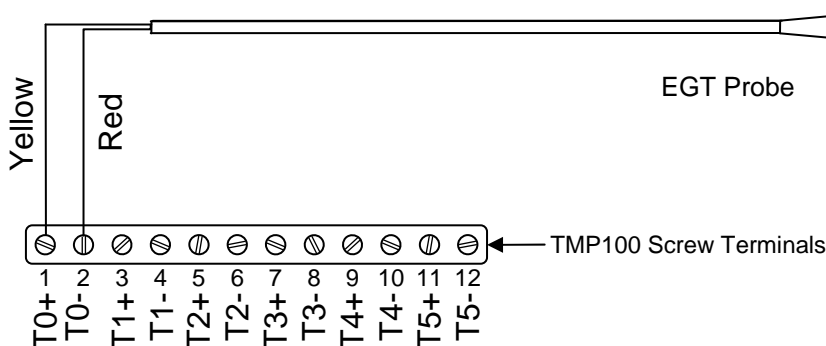

Figure 1 – Wiring Diagram
Please follow these instructions to connect the TP-EGT-1 exhaust gas temperature probe to the NMEA 2000® network via a Maretron TMP100 Temperature Module. The wiring diagram appears in Figure 1 below. The diagram shows a connection to channel #0, but connections to other channels are similar. Please note that the TP-IP-1 may be connected only to channels #0 and #1. It may not be connected to channels #2, #3, #4, or #5.
4. The TP-EGT-1 cable contains one yellow and one red wire. Connect the red wire to the appropriate Tx-terminal on the TMP100 as shown in Figure 1 below.
5. Connect the yellow wire to the appropriate Tx+ terminal on the TMP100 as shown in Figure 1 below.